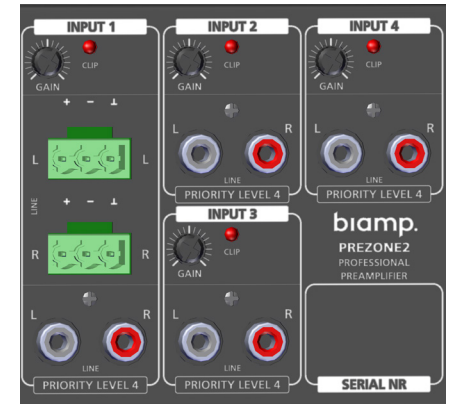

Figure 6. Inputs 1 - 4
1. See Figure 6. Connect source inputs as required. Input 1 has Euroblock connectors that accept balanced line level signals and RCA jacks that accept line level signals. Inputs 2-4 accept RCA only. Inputs 2-4 accept RCA only.